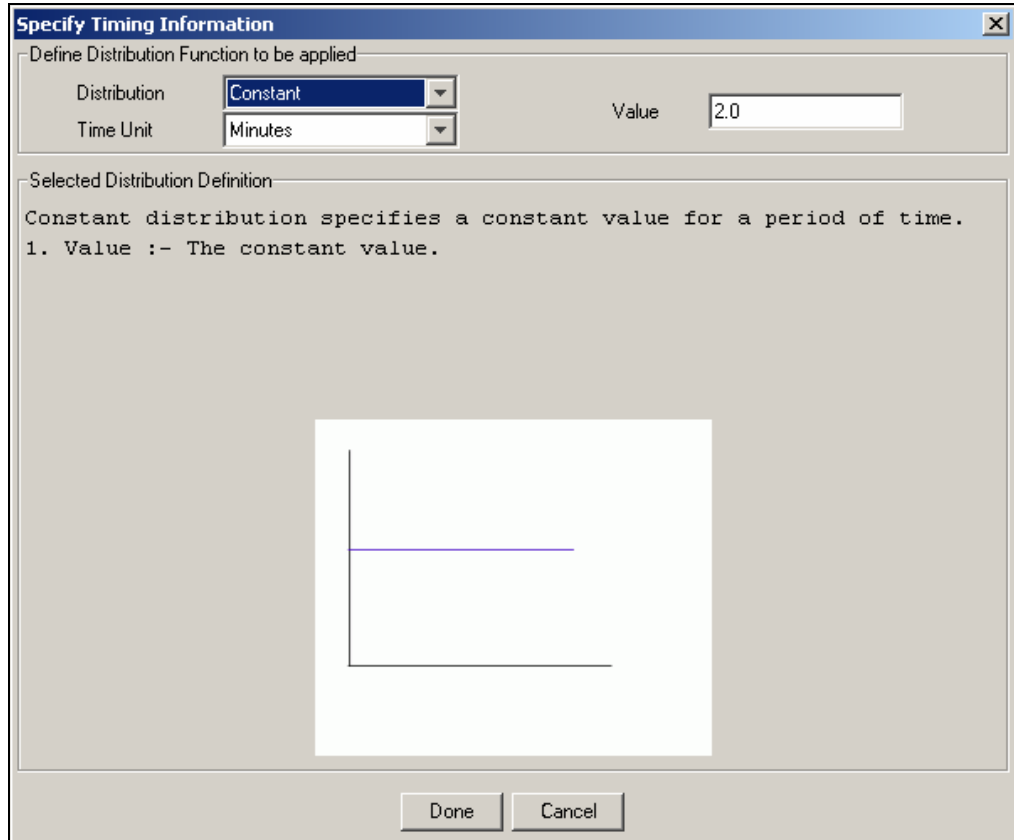

Figure 10.15: Define Execution Time
1. To assign the execution time, click **Assign** in *Value* column of the *Execution Time* property. The *Specify Timing Information* dialog box is displayed (see Figure 10.15).